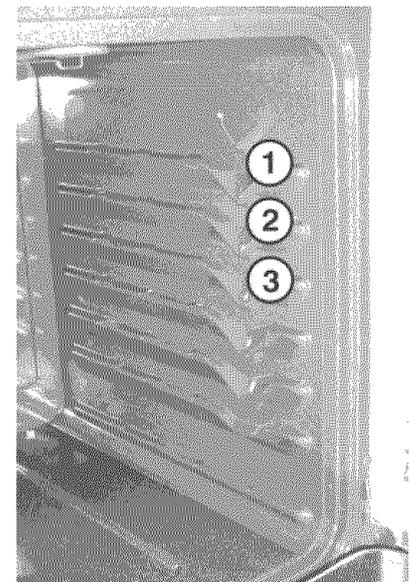

Fig. 3
Broil Rack Position Table (Refer to Fig. 3)
3. Firmly grasp both sides of oven door along the door sides (Do not use the oven door handle - See Fig. 3).
1. Firmly grasp both sides of oven door along the door sides (Do not use the oven door handle - See Fig. 3).